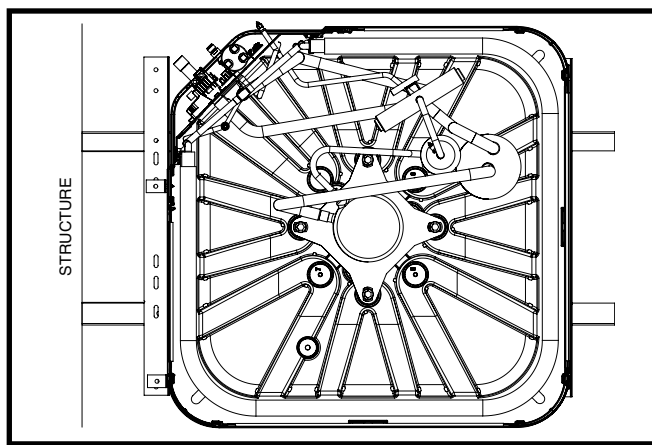

Figure 4. Large Footprint - Control Panel Left
- See Figure 4 for large footprint units with control panel on the left.